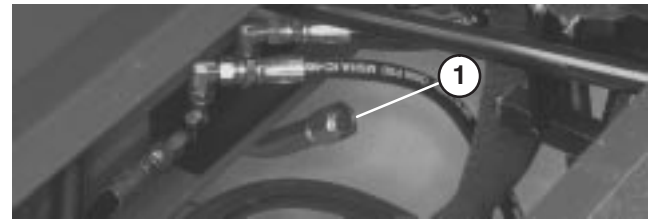

Figure 18
4. Unscrew dipstick cap from the transmission filler neck (Fig. 18) and wipe it with a clean rag. Screw dipstick into filler neck. Remove the dipstick and check level of